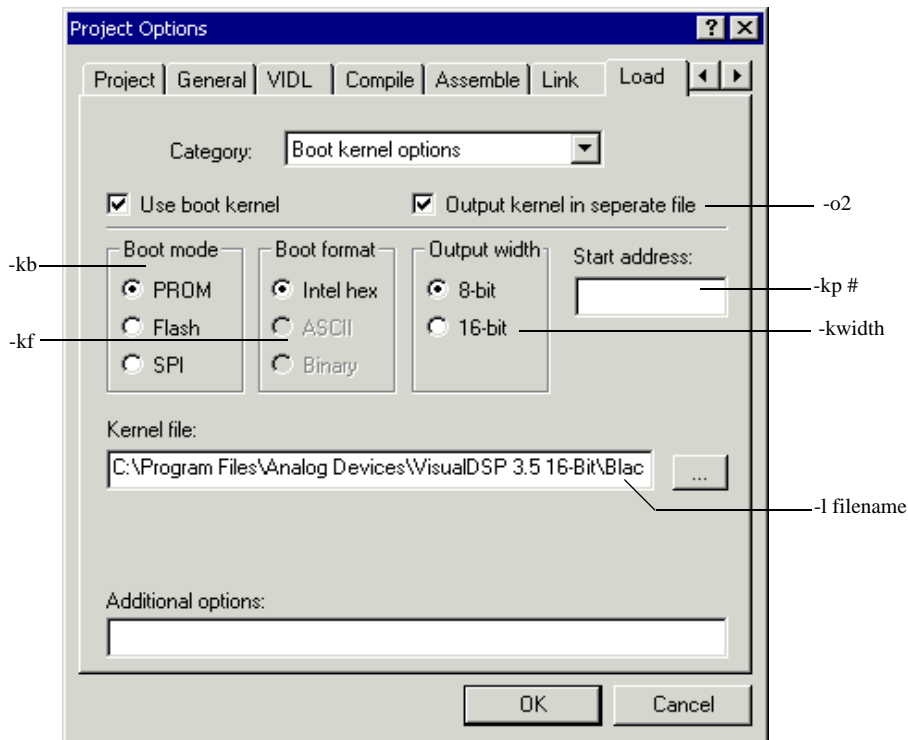

Figure 2-15. ADSP-BF53x Processors: Boot Kernel Pane
Figure 2-15 shows an example boot kernel **Load** pane for a Blackfin processor.
2. Select **Boot kernel options** from the **Category** drop-down box to open the second **Load** pane with the second-stage loader settings, shown in Figure 2-15.